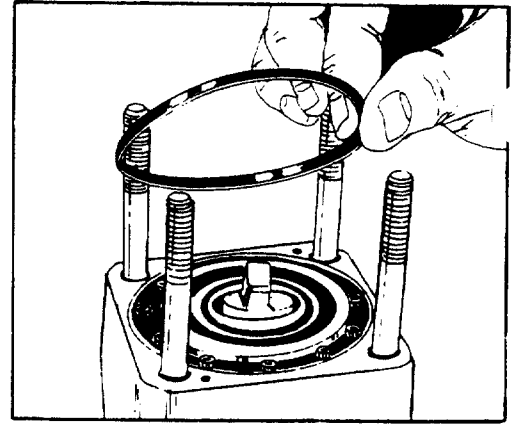

FIGURE 75.
27. Apply clean grease to the metering ring seal ring (3). Place the seal ring into the metering ring seal ring groove. See figure 75.